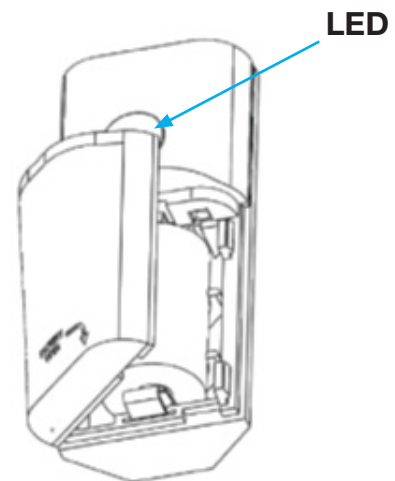

Figure 3
3. Verify LED flashes red on Motion Sensor (Figure 3).